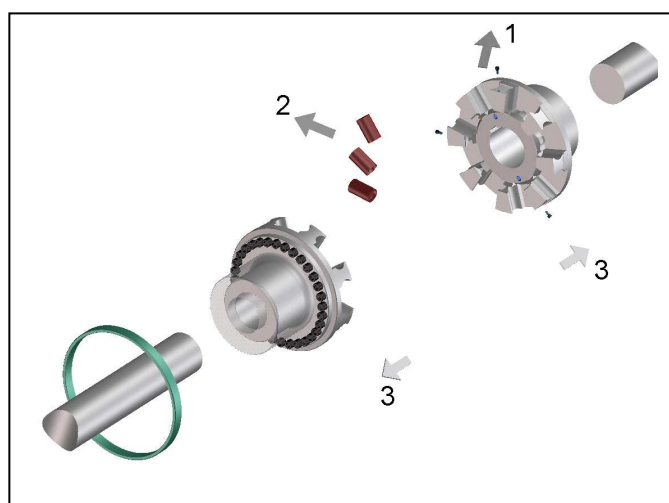

Fig. 4
- Unscrew the locking screws at the retaining ring (Fig. 4, Pos.1) and deposit the ring on the free shaft end opposed to that hub.
- Take out the elastic buffers (Fig. 4, Pos. 2).
- Mount the coupling hubs in the proper position on the shaft ends (Fig. 4, Pos.3).